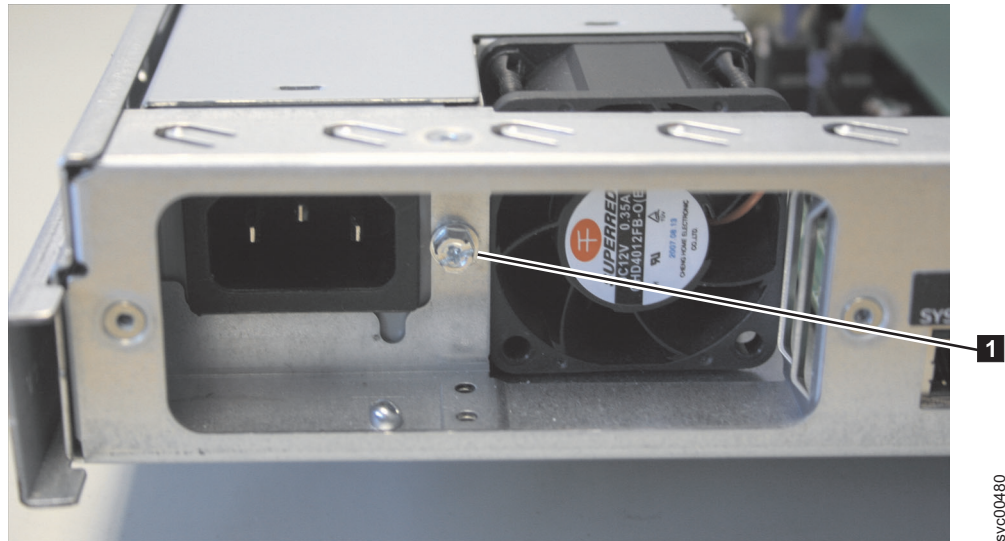

Figure 30. Retaining screw on the SAN Volume Controller 2145-8A4 node
2. Unscrew the retaining screw **1** that is located next to the power cable socket three full turns, but do not fully remove the screw, as shown in Figure 30.